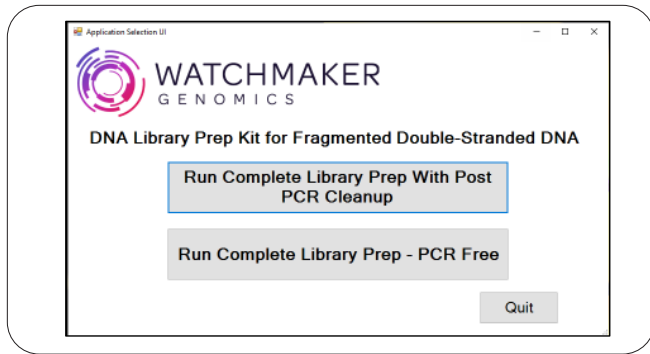

Figure 3. Application start screen presenting PCR vs. PCR-free workflow options.
- Push Button Protocols:** Allows users to choose between PCR vs. PCR-free workflows at the start of the run (Figure 3)